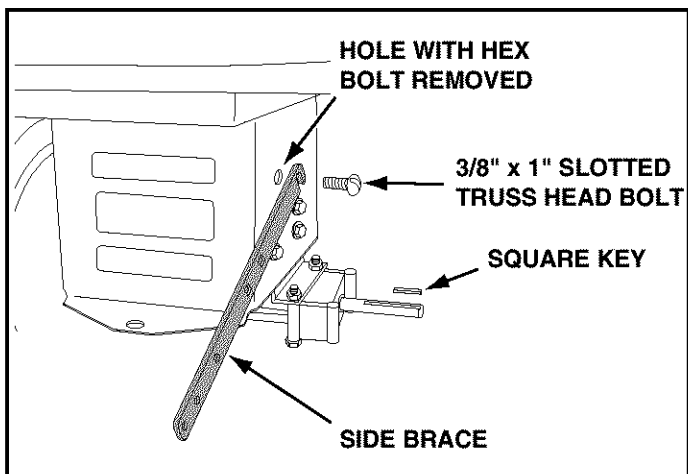

FIGURE 35
- Remove the hex bolt from the top hole in the side of the tractor frame as shown in figure 35.
- Assemble the notched end of each side brace to the top hole in the each side of the tractor frame, using the provided 3/8-16 x 1" slotted truss head bolts. See figure 35.